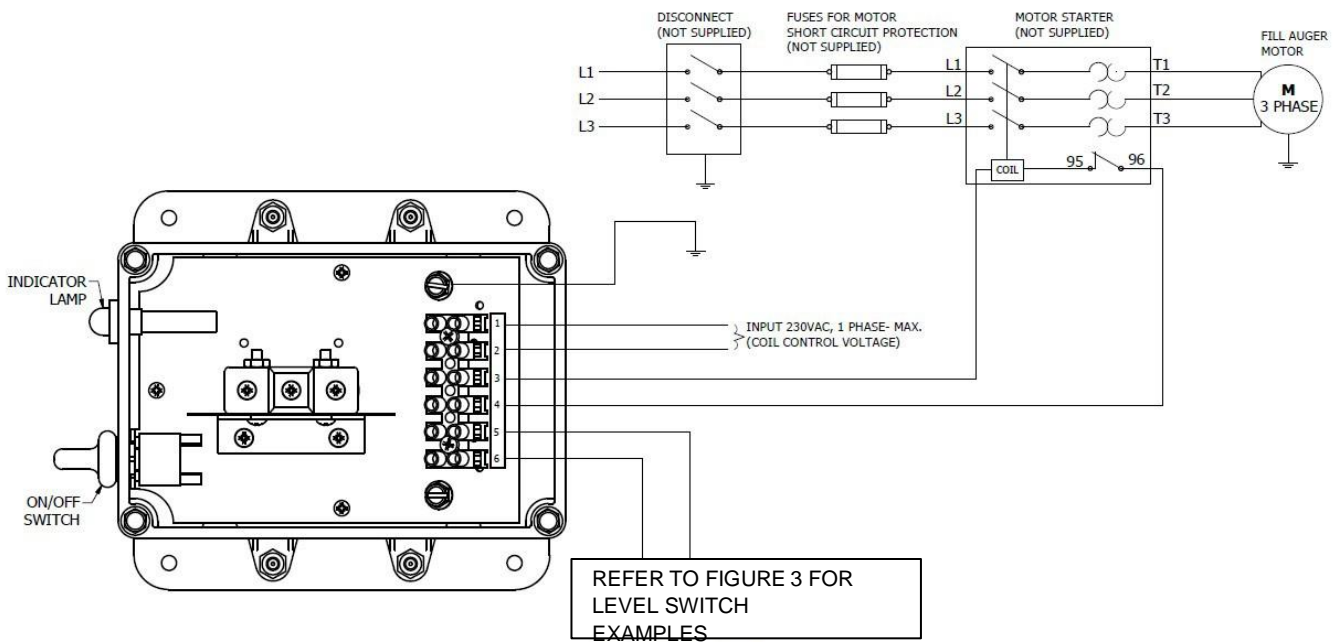

**FIGURE 2**
2. The HS593 Control Unit must be hardwired. See (Figure 2) for factory wiring diagram.